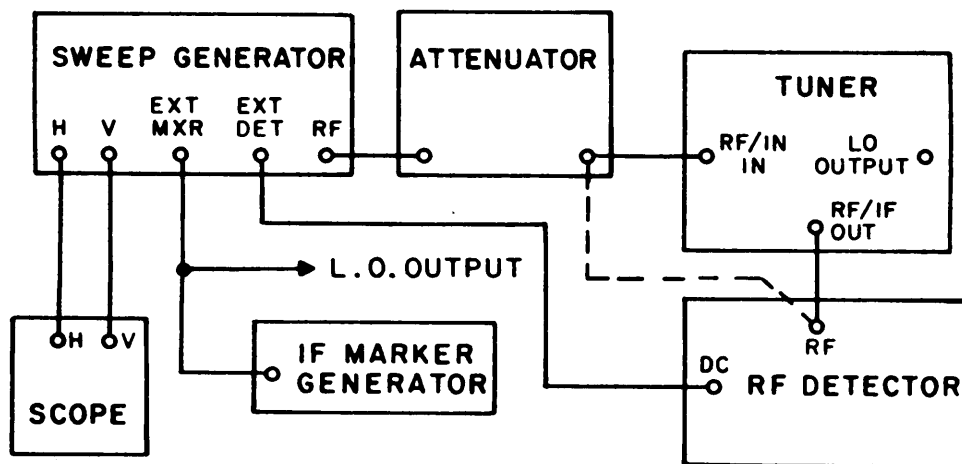

Figure 4-3. Test Setup, Gain Measurement Circuit Connection
- (1) Connect the circuit as shown in Figure 4-3.
- (2) Set the IF marker to 10 MHz.
- (3) Adjust the sweep generator and attenuator to produce an undistorted response with the marker centered on the curve.
- (4) Slowly tune through the tuner's frequency range until the lowest amplitude point is found. Note the attenuator setting at this point.
- (5) Connect the RF detector to the attenuator and decrease the attenuation until the scope deflection equals that noted in step (4).
- (6) Compute the minimum gain by subtracting the attenuator setting in step (5) from step (4).
- (7) Repeat steps (3) through (6) at the highest amplitude point of the response.
- (8) Compute gain variation by subtracting the lowest gain measurement from the highest gain measurement. Gain variation across the tuning range shall be less than 10 dB.
- (2) Set the IF marker to 21.4 MHz.
- (9) The typical gain of the RF tuner is 27 dB \pm 5 dB.